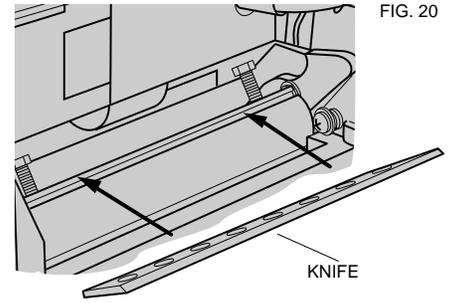

FIG. 20
- 2) Carefully slide the new knife on to the cutterhead, as shown in Figure 20.